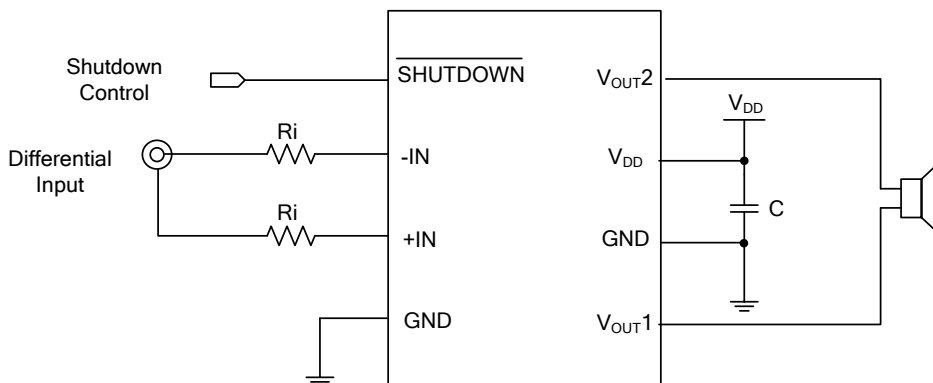

Fig. 3 Differential Input Configuration
The M4670 can be used in many different circuit configurations. The most typical is the DC-coupled, differential input configuration shown in Fig. 3. Equation(2) above is used to determine the value of the Ri resistors for a desired gain.